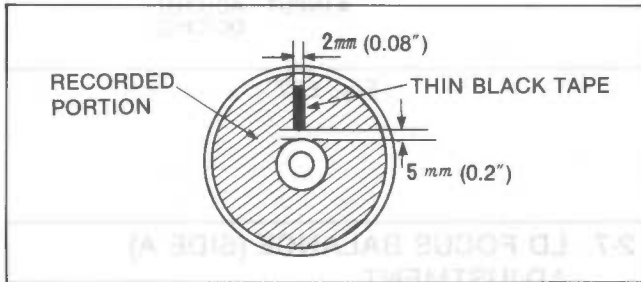

Fig. E23
2. Stick a Black Tape on the LD Test Disc as shown in Fig. E23. Then set it to the Tray so that the dropout side face downward. Then play back the side A.
2. Stick a Black Tape on the LD Test Disc as shown in Fig. E23.
3. Stick a Black Tape on the LD Test Disc as shown in Fig. E23.